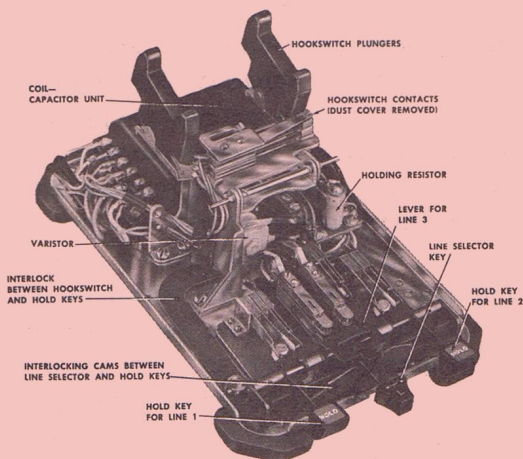

Figure 2. Base Assembly, 1573 Telephone.
a. Base Assembly (fig. 2). This assembly is comprised of a dial, or dial blank assembly, a coil-capacitor assembly, a hookswitch assembly, a line selector key assembly, a holding key assembly, an inter-com switching assembly, a varistor, and a terminal board. These components are mounted on the metal baseplate.
(7) *Varistor* (fig. 2). The varistor is located directly beneath the hookswitch assembly. The noise of line switching is reduced to a minimum with this device.